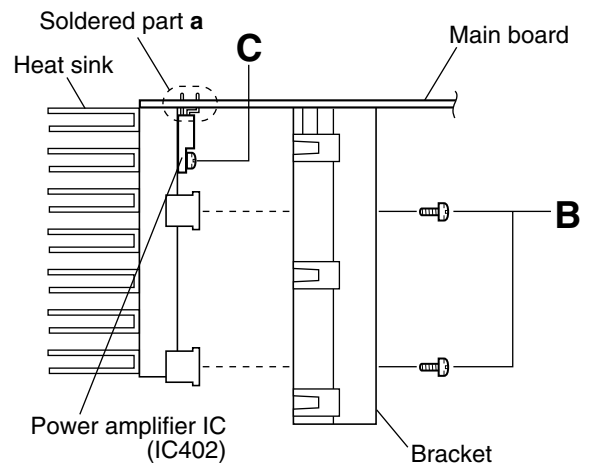

Fig.3
- From the forward side of the main board, remove the four screws **B** retaining the bracket. (See Fig.3.)
(See Fig.3.)
- Remove the screw **C** attaching the power amplifier IC onto the heat sink. (See Fig.3.)
- In order to replace the power amplifier IC, remove the solder from the soldered part **a** on the reverse side of the main board. (See Fig.3.)